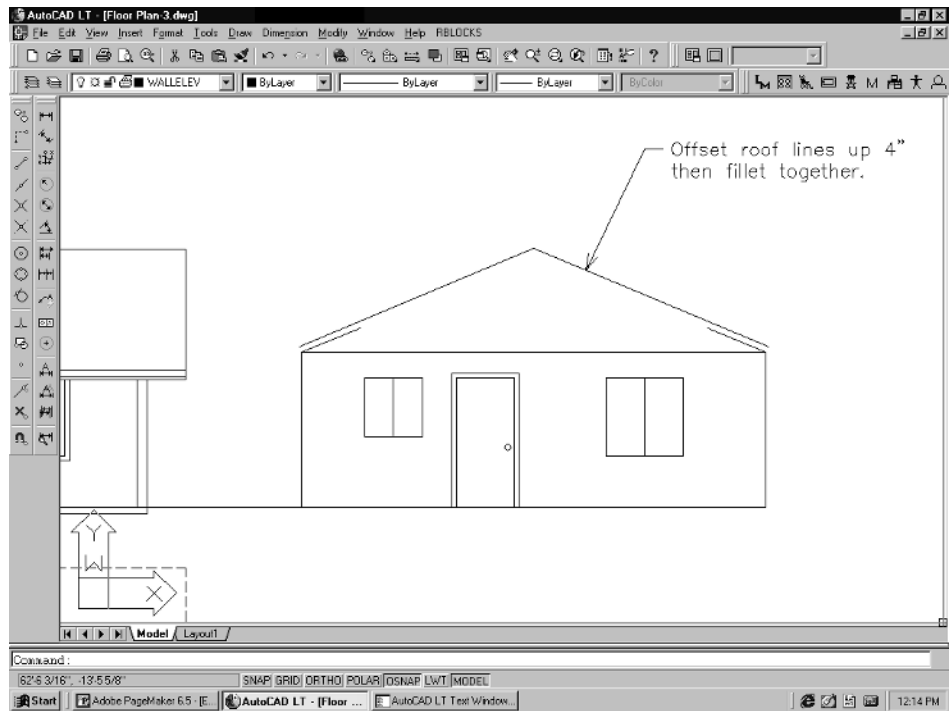

Figure 4-33
1. The first thing to do is to offset the roof lines 4" up to represent the truss and the sheathing. Then, fillet the top lines together, as in Figure 4-33.